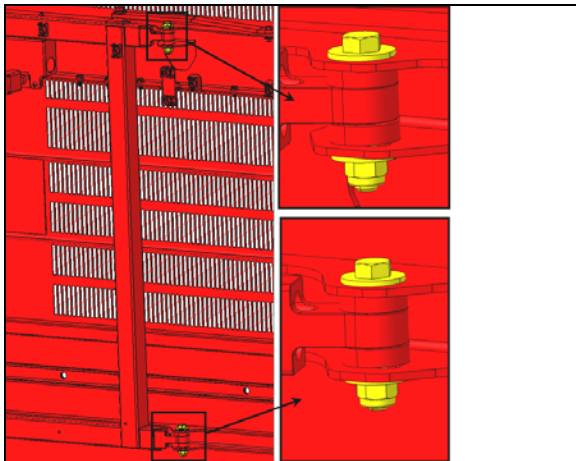

FIGURE 47
- If the vertical position is out of tolerance, rotate the door using the adjustment provided on the inner side of the door, at the attachment points between the arm and the door (FIGURE 47).